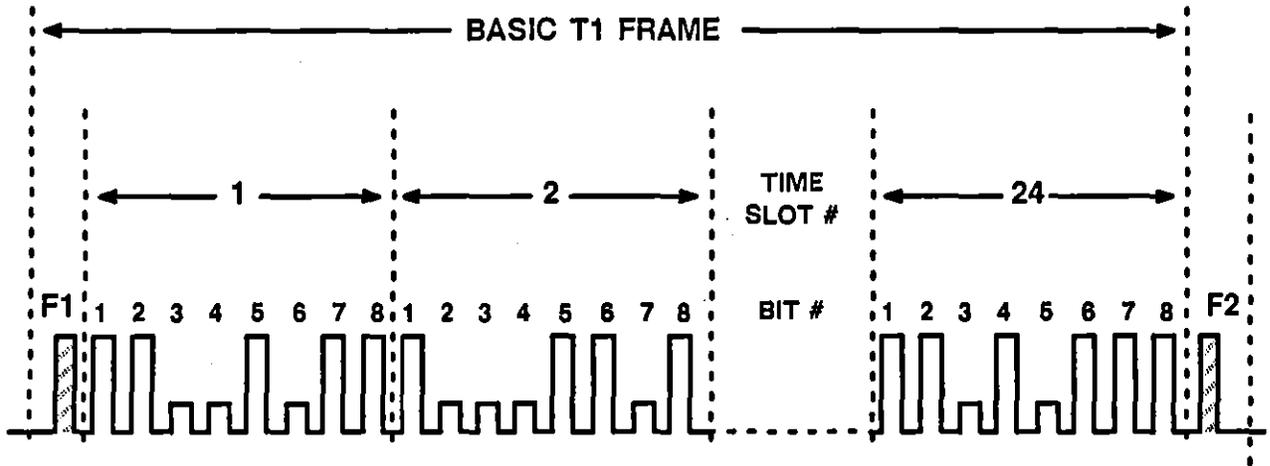
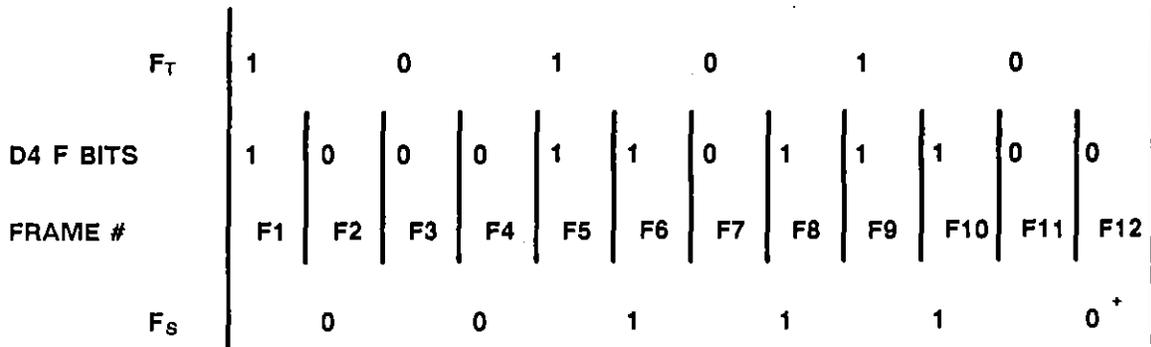

Figure 52-20 193-bit frame which serves as the component in both D4 and ESF extended framing formats.
Figure 52-21 D4 framing bits are always set to 100011011100. A yellow alarm is an exception: In this case, Bit 12 may be set to 1.
A D4 superframe contains twelve frames of 193 bits each; that is,  $12 ( 24 \times 8 + 1 )$ , where 24 is the number of time slots, 8 the number of bits per time slot, and 1 the framing bit which precedes each component frame (see Figure 52-20 and Figure 52-21). In extended superframing (ESF), 24 of these 193-bit frames are contained within one superframe. Framing (F) bit patterns and in-band signalling (if employed) differ in the two schemes as illustrated in Table 52-1 through Table 52-2.